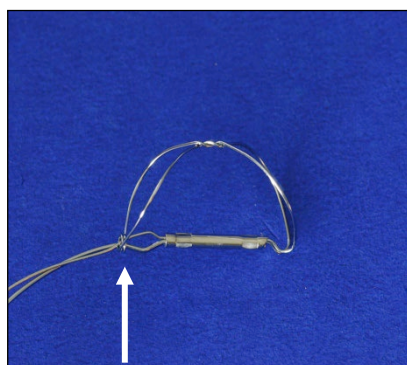

**Figure 15a: Unlocked Distal Anchor**
- iii. Confirm both anchors are locked by utilizing multiple fluoroscopic views. Examples of locked and unlocked anchors are shown in Figures 15a through 15d.